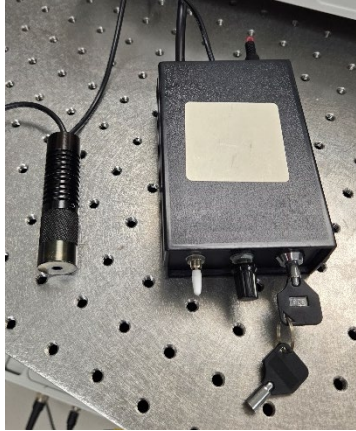

Figure 18. Red diode laser used to align diagnostics.
- Use the red diode laser with small black power box (Figure 18)